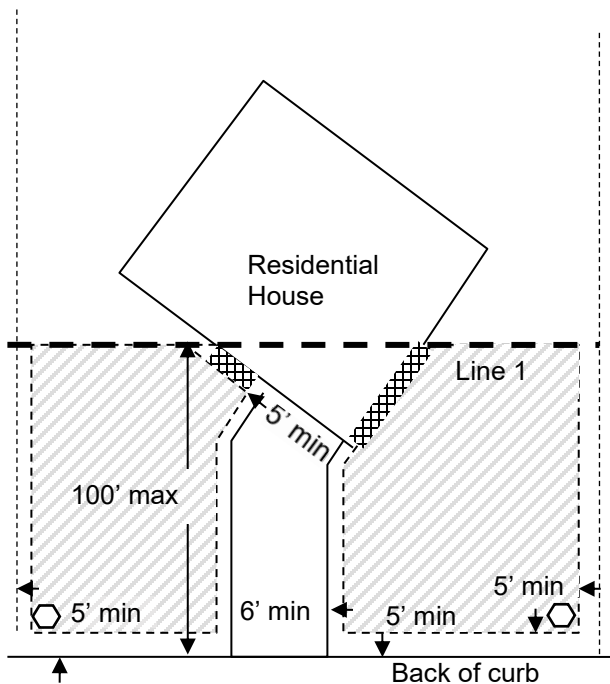

Figure 3. Front of House that is Not Parallel to the Back of Curb
- 9.5 For lots where the back of curb is not parallel to the front of the house, see Figure 3 to draw **Line 1** (for method outlined in Sections 7 or 8).